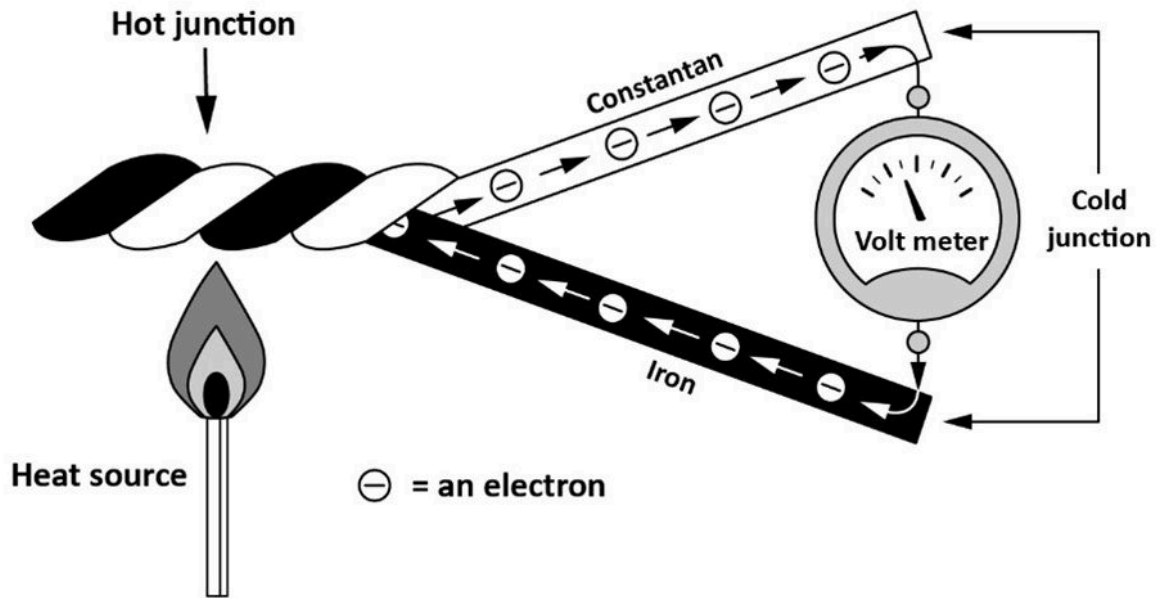

Figure 1 Thermocouple hot and cold junctions
- Figure 1 “Pilot flame” by Camosun College is licensed under a CC BY 4.0 licence (<https://creativecommons.org/licenses/by/4.0/>).
The thermocouple is made of two dissimilar metals joined together at one end called the hot junction. The opposite end, which is not joined together, is called the cold junction (Figure 1). It is important that only $\frac{3}{8}$ to $\frac{1}{2}$ in (10 mm to 13 mm) of the hot junction is heated by the pilot flame, as the greater the temperature difference between the hot and cold junctions, the greater the voltage generated. The thermocouple generates approximately 25 to 30 millivolts (mV), which is enough to power the electromagnet in a safety shut-off valve or safety switch.